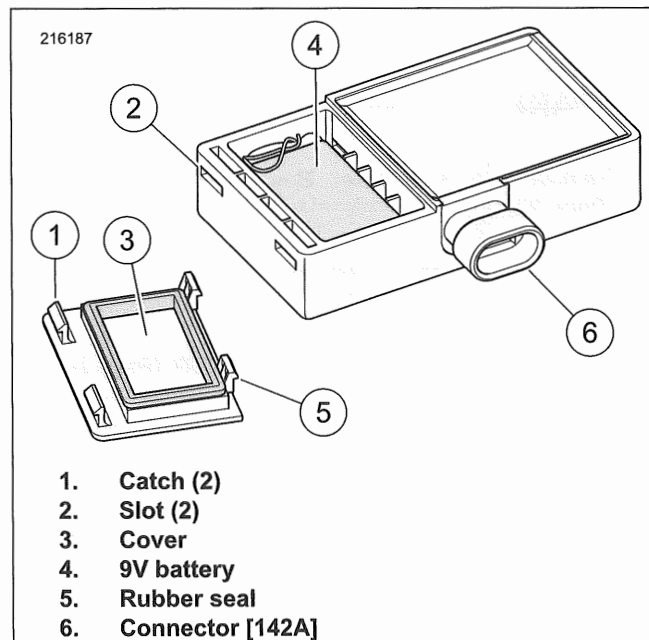

Figure 7-118. Battery Compartment
2. See Figure 7-118. With a small screwdriver, push the catches (1) in through the two slots (2) in the end of the siren. Release the battery cover (3).